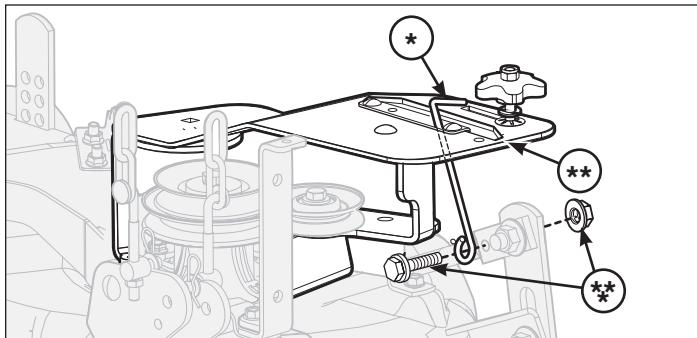

Figure 8
1. Insert existing height of cut indicator (*, Figure 8) through slot (**) on turbo belt cover as shown.